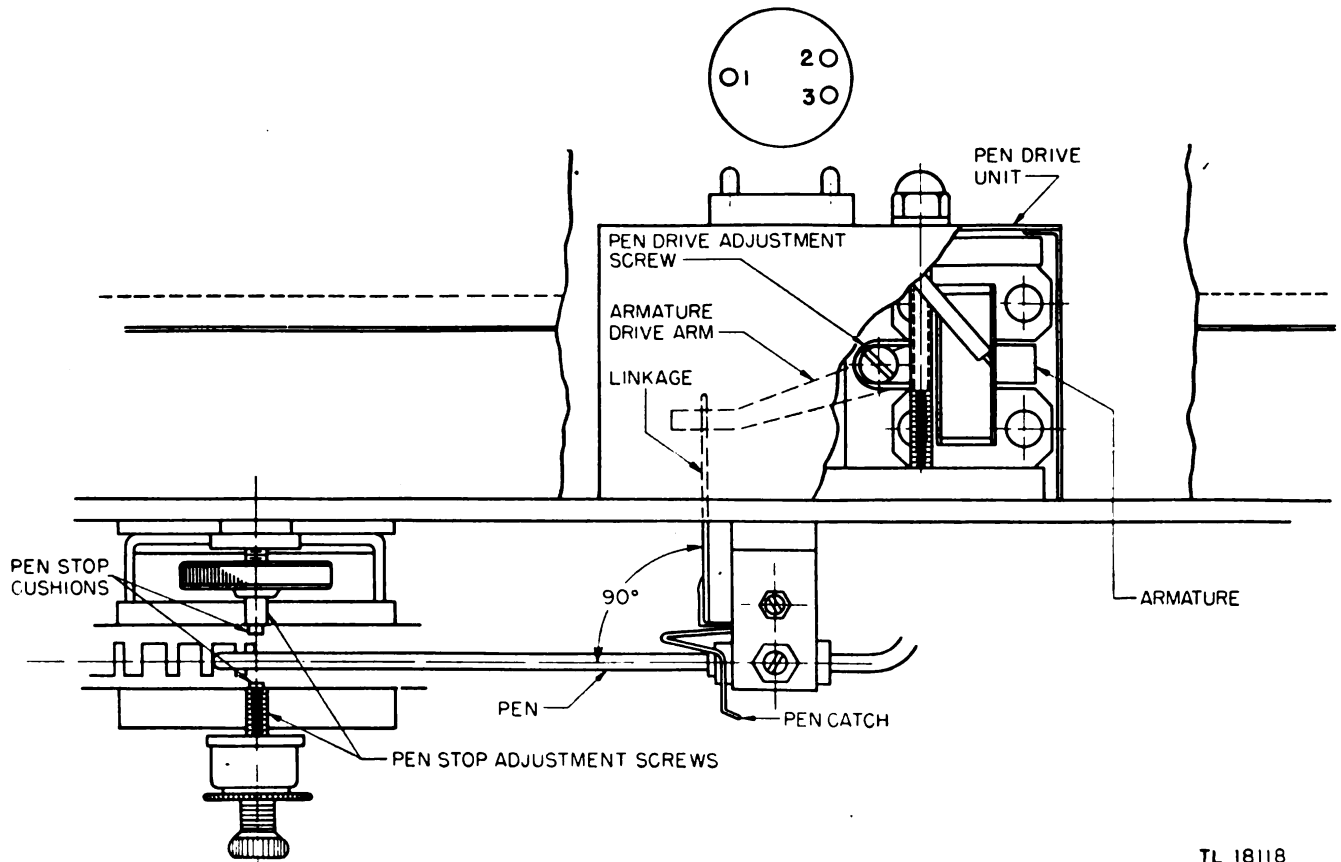

Figure 34. Pen drive unit.
4. Set adjusting screw on top side of drive unit so that screw slot is parallel to panel. (See fig. 34.)
5. Turn pen drive adjustment screw (fig. 34) first to left, then to right, so that pen will travel first along one edge, then along the other.